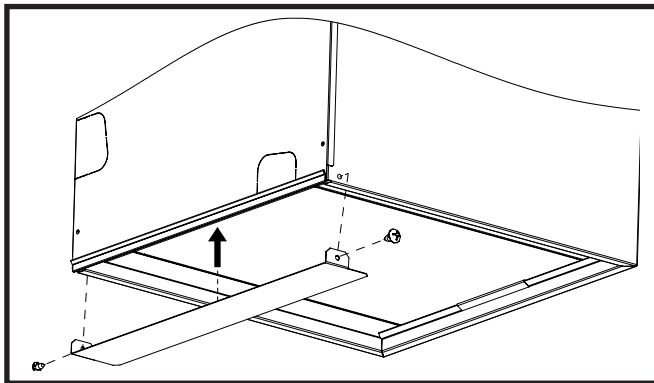

Figure 19. Close-Off Plate
2. Install the close off plate on the bottom of the of the coil box. See Figure 19.